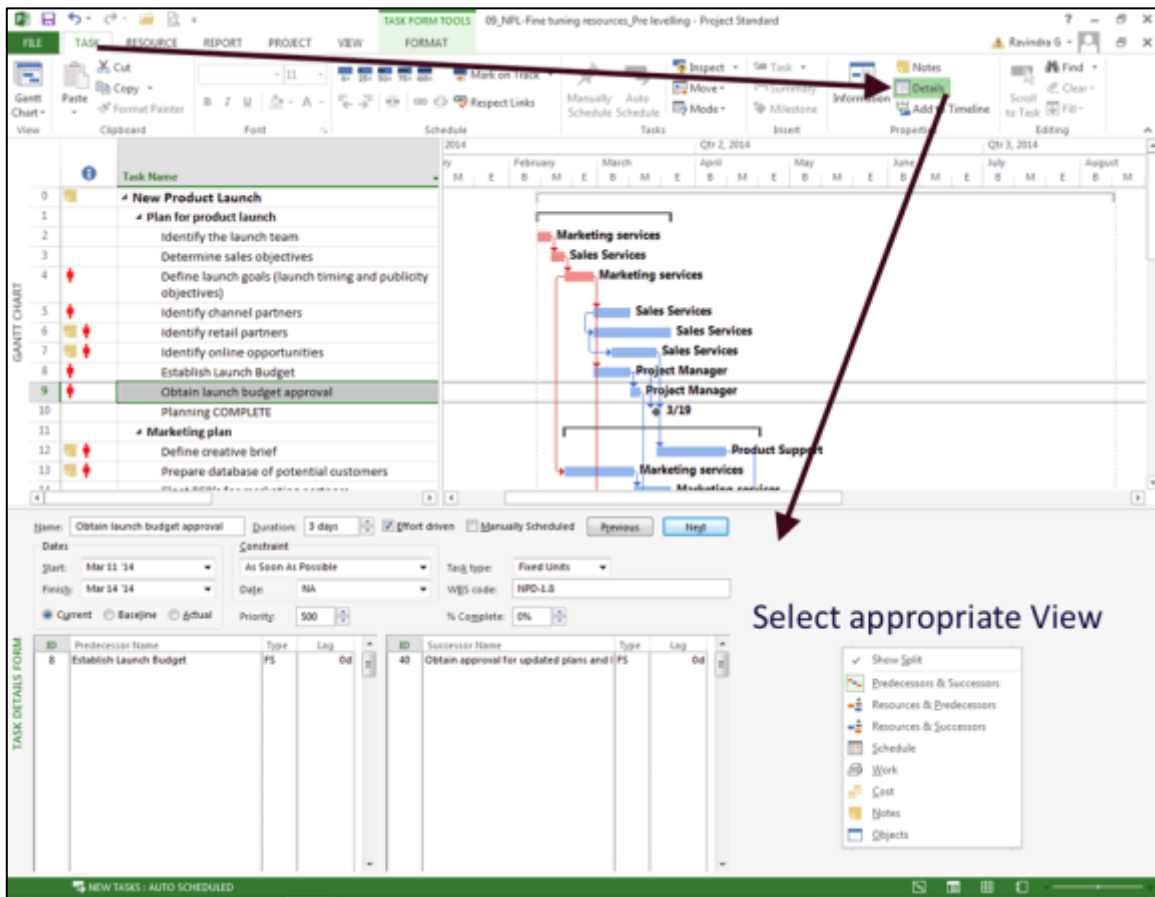

Fig.5.3: Combination View
- c) Create the combination view by clicking the Task tab and, in the Properties group, clicking the Display Task Details button. (Fig.5.3)